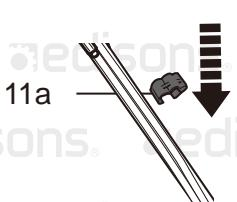

Fig. 3
7. Fix the wires (6, 7, 8) with the wire clips (11a, 11b) to the lower handle bar (9) (Fig. 3).